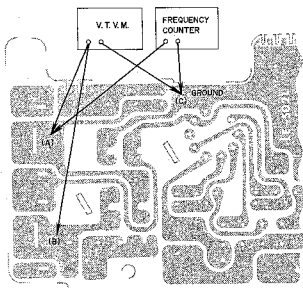

Fig. 18
### 3. RECORDING BIAS FREQUENCY ADJUSTMENT (See Fig. 18)
- 2) Connect a Frequency counter to points (A) and (C) in Fig. 18 of the Oscillator P.C. Board (LE-5021) and read the frequency indication.
- 2) Connect a V.T.V.M. to points (B) and (C) in Fig. 18 of the oscillator P.C. Board (LE-5021) and read the V.T.V.M. indication.